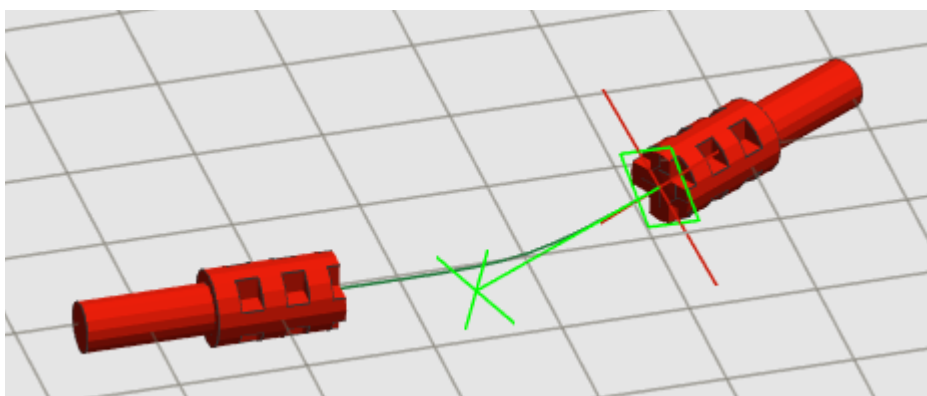

Fig. 18: Placing tail
2. place flexible part “tail”. As for heads, tail have connection points. An “elastic band” goes from head to tail position (Fig. 18), and a green tool shows the direction of flexible part final part, as a preview for final part. If band is green, your path length is less than real part length. If you put tail too far from head, band become red, but it is only a visual warning, nothing more: program will not refuse to create final part